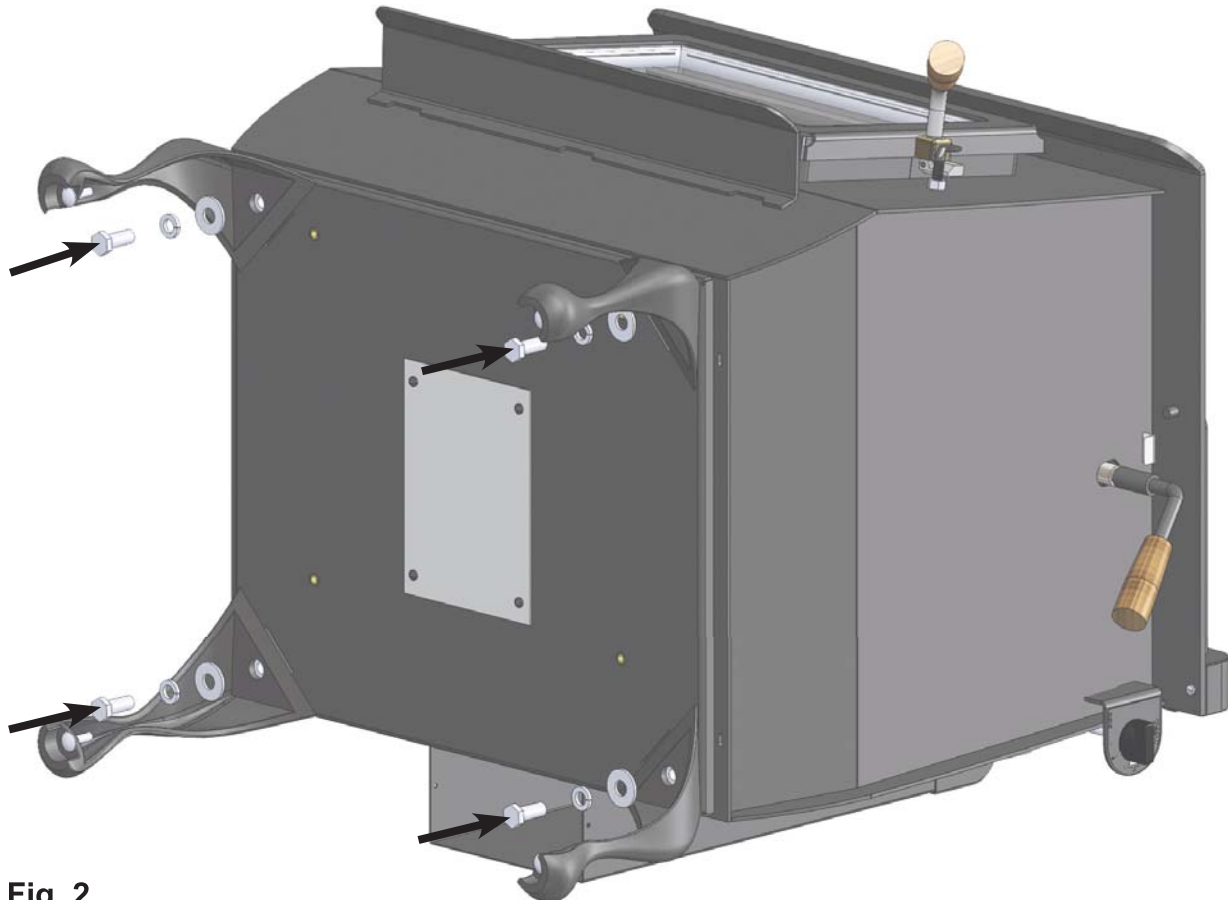

Fig. 2
3. Position each leg accordingly and fasten to stove using the removed 1/2" bolts, as well as the supplied washer and lock washer. (see Fig. 2)